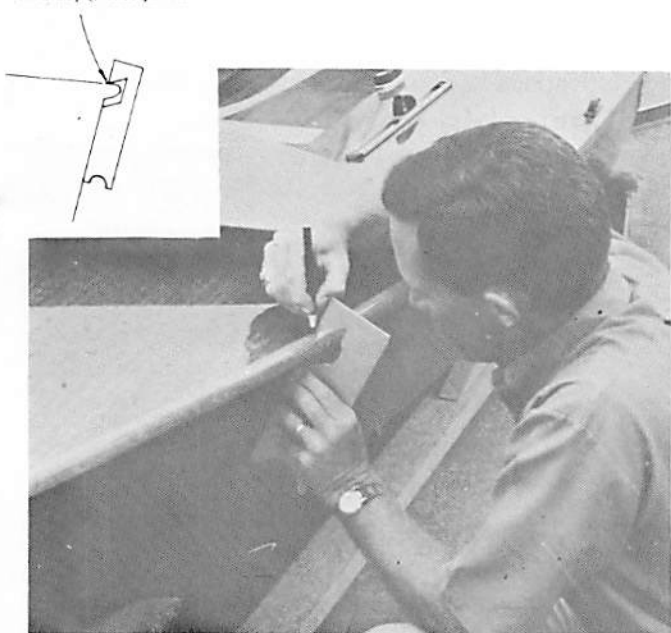

Figure 8
11. Using the calipers shown in Sketch 4, measure the chine widths while the hull is still inverted. After the hull is righted, but before sheer widths are measured, the point of intersection between deck and hull must be marked. If deck does not project beyond hull sides this is not necessary. Using the template shown in Sketch 5, mark this point on deck with a grease pencil (See Figure 8). Measure the sheer widths between these points, as shown in Figure 9.